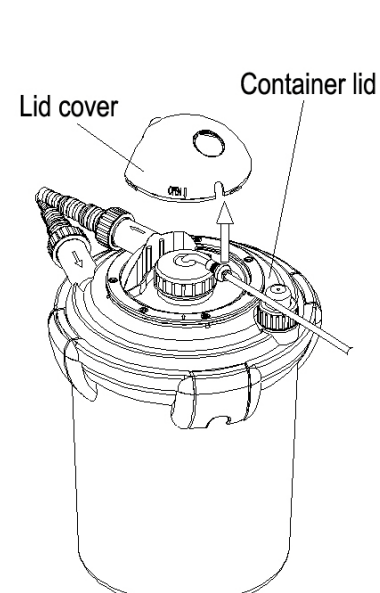
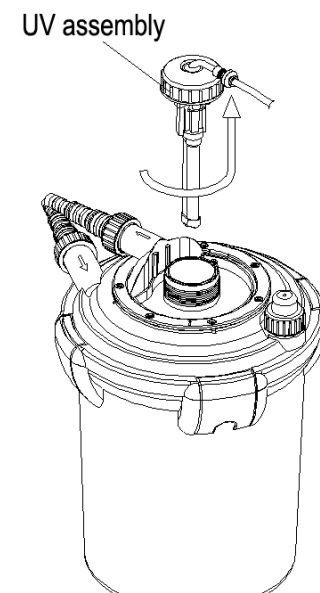
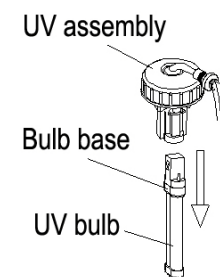
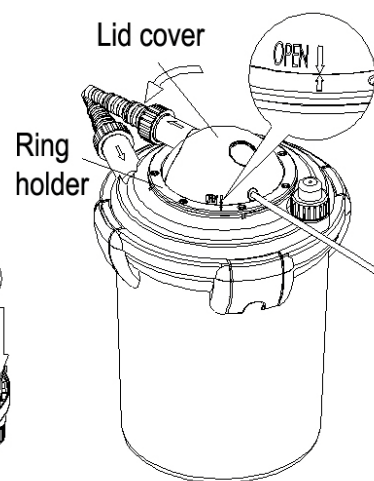

Figure 6
Figure 7
Figure 8
Figure 5
1. To change bulb, first unplug the pump and bio-filter from its power source. Rotate the lid cover, until the arrows on the lid cover aim at the arrow on the ring holder (See figure 5). Remove the lid cover from the top of container lid (See figure 6). Unscrew the UV light assembly counterclockwise and gently lift out (See figure 7). Allow UV light assembly and light bulb to cool and dry completely before handling. Once cool and dry, grip the base of the bulb with a dry cloth and gently pull the bulb from the assembly unit (do not pull on the bulb by gripping the glass element) (See figure 8). Slide new bulb into place until properly seated. Do not test UV light until the filter has been completely reassembled.